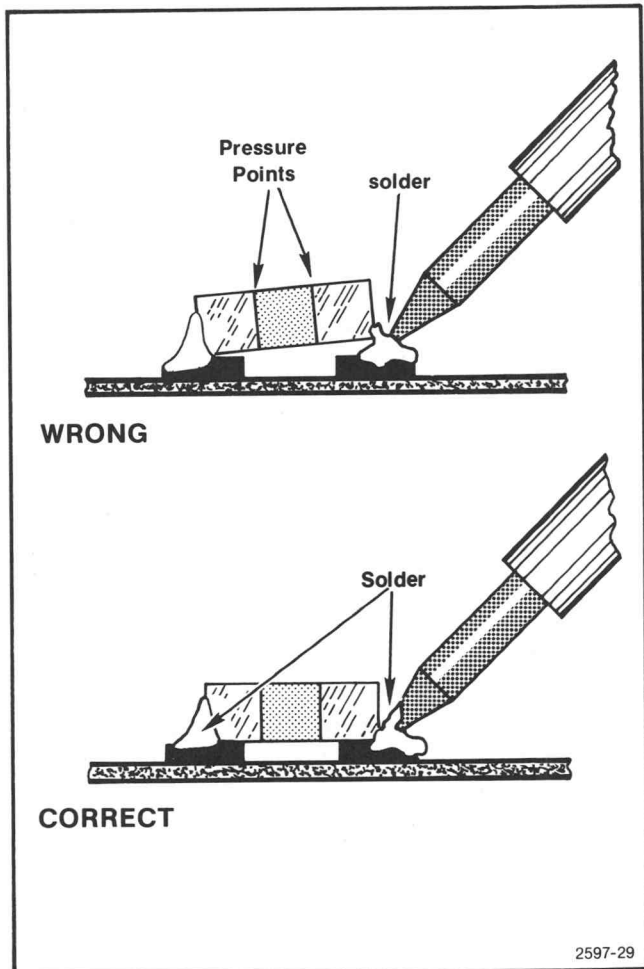

Fig. 5-5. Soldering Chip Components.
Troubleshooting the Power Supply (see Fig. 5-5). A useful troubleshooting feature of the Test Modulator is that the power supply can virtually be removed from the instrument for troubleshooting. The following steps will assist in troubleshooting:
5. Remove the five screws shown in Fig. 5-5.